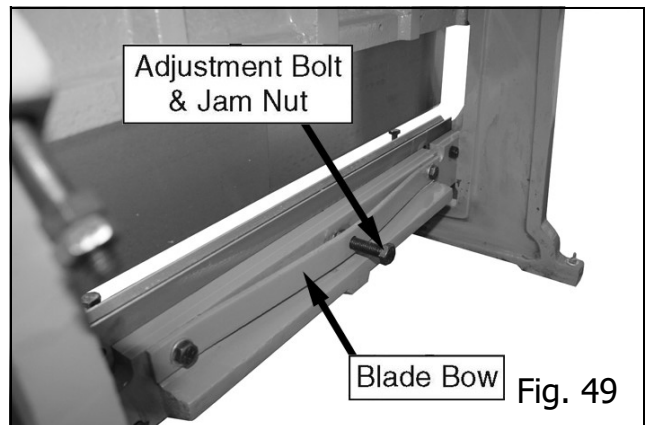

Fig. 49
The adjustment bolt of the blade bow is used to remove any slight bow in the cast iron cross beam that the brake finger receiver and upper shear blade are attached to (see Figure 49).
1. Hold the adjustment bolt still, then turn the jam nut to adjust the center of the cross beam in or out (see Figure 49).